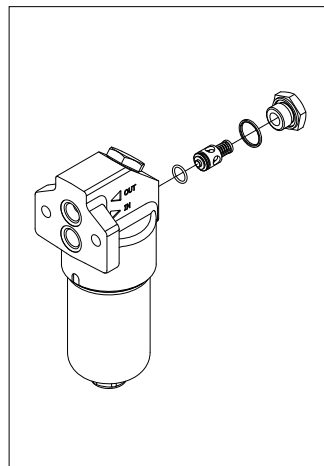

fig. 17
- (Fig. 17) Replace the O-rings of the bypass